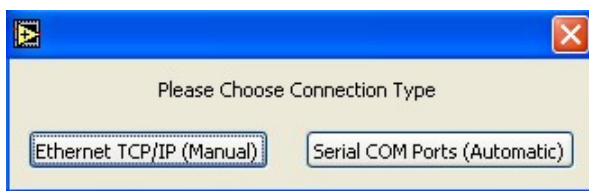

Fig 3-7 Connection Type Select Pop-up Window
4. If the IXS is equip with an ethernet port, then the GUI will open with a pop-up window that asks you to choose ethernet or serial connect as shown in Fig 3-7.